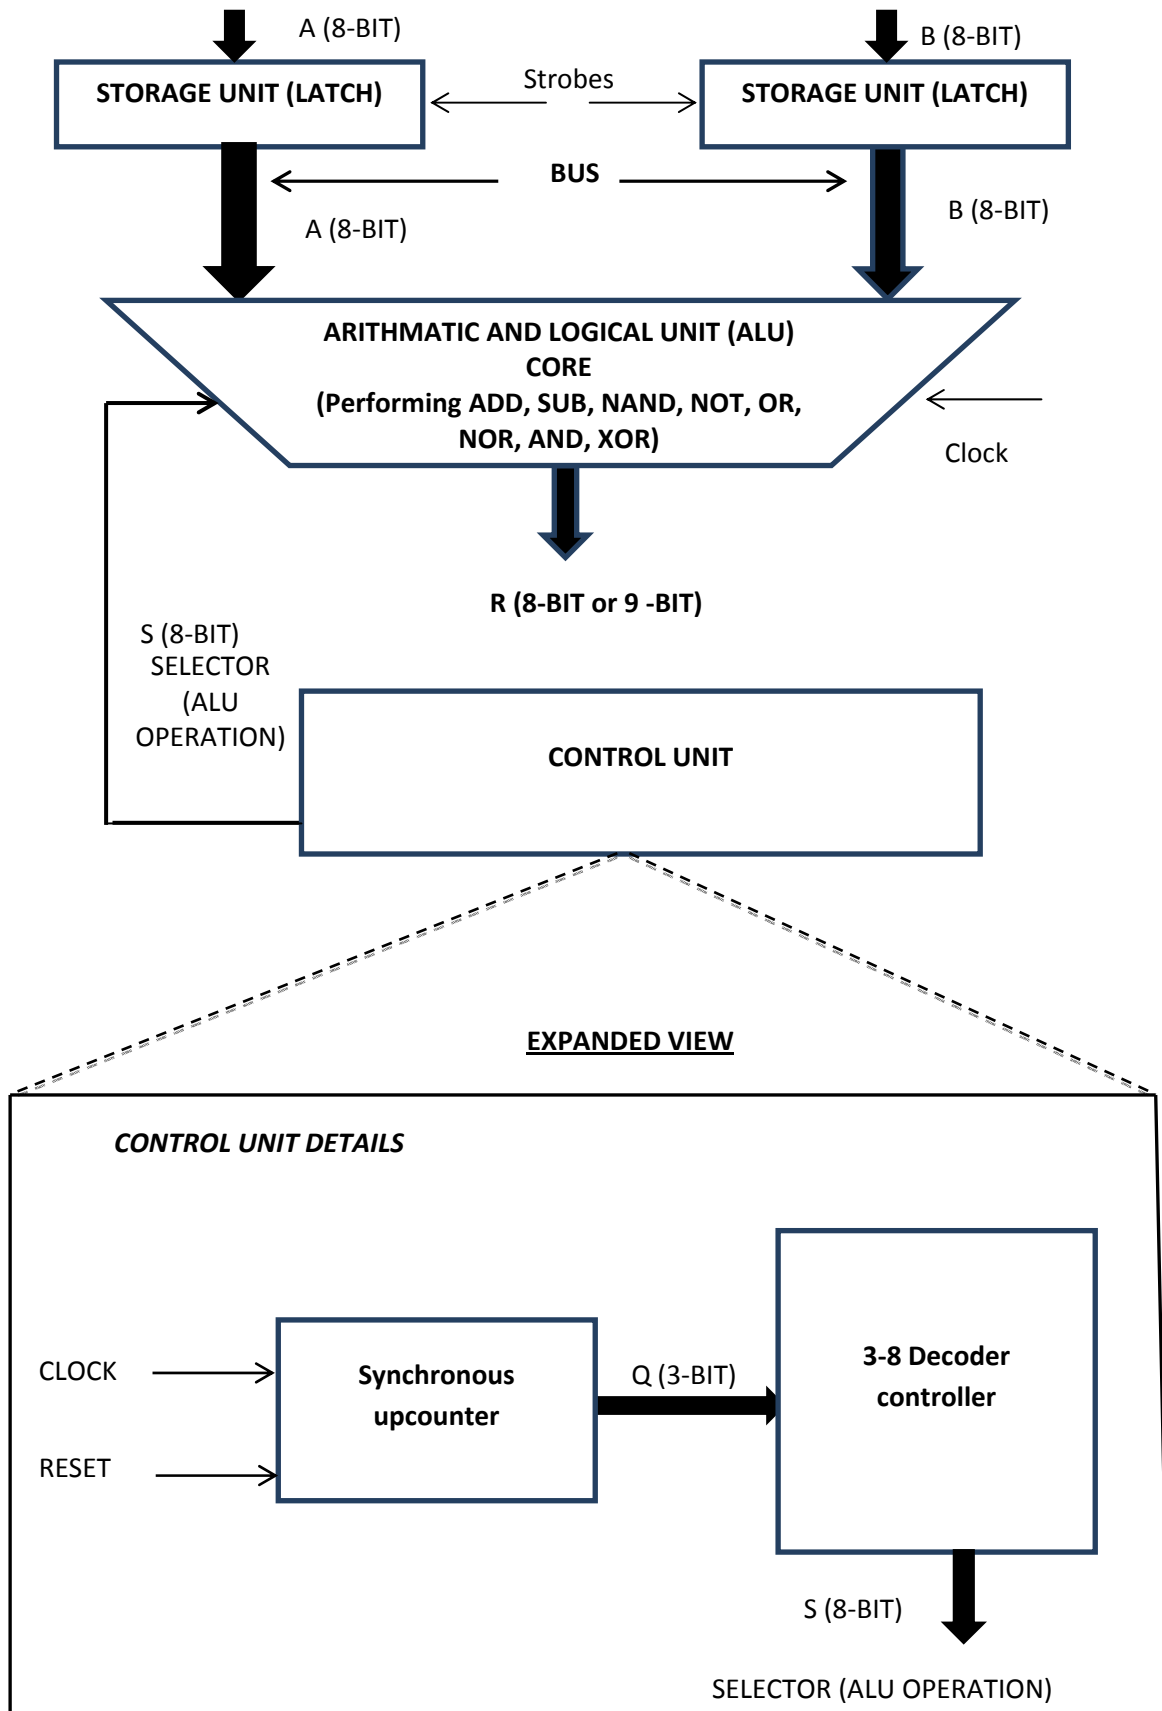

Figure1. The Block Diagram of a simple 8-bit Processor
- Your ALU will perform eight functions on two 8-bit inputs (A and B). These inputs could represent either unsigned numbers or simply bit patterns. The ALU will generate a 4-bit output (R).
- To select which of the eight functions to implement you will need 8-bit select inputs. A block diagram is shown in Figure 1.
- 1) Open a new schematic file and connect all the components of the processor (with proper data integrity) based on figure1 (complete block diagram). Name the busses/inputs as e.g. A[7..0] by right clicking on the bus symbol and going to properties for renaming the bus. Name the wires as e.g. Q[1] by right clicking on the wire symbol and going to properties for renaming the wire. The complete schematic must look similar to Figure I (in appendix)